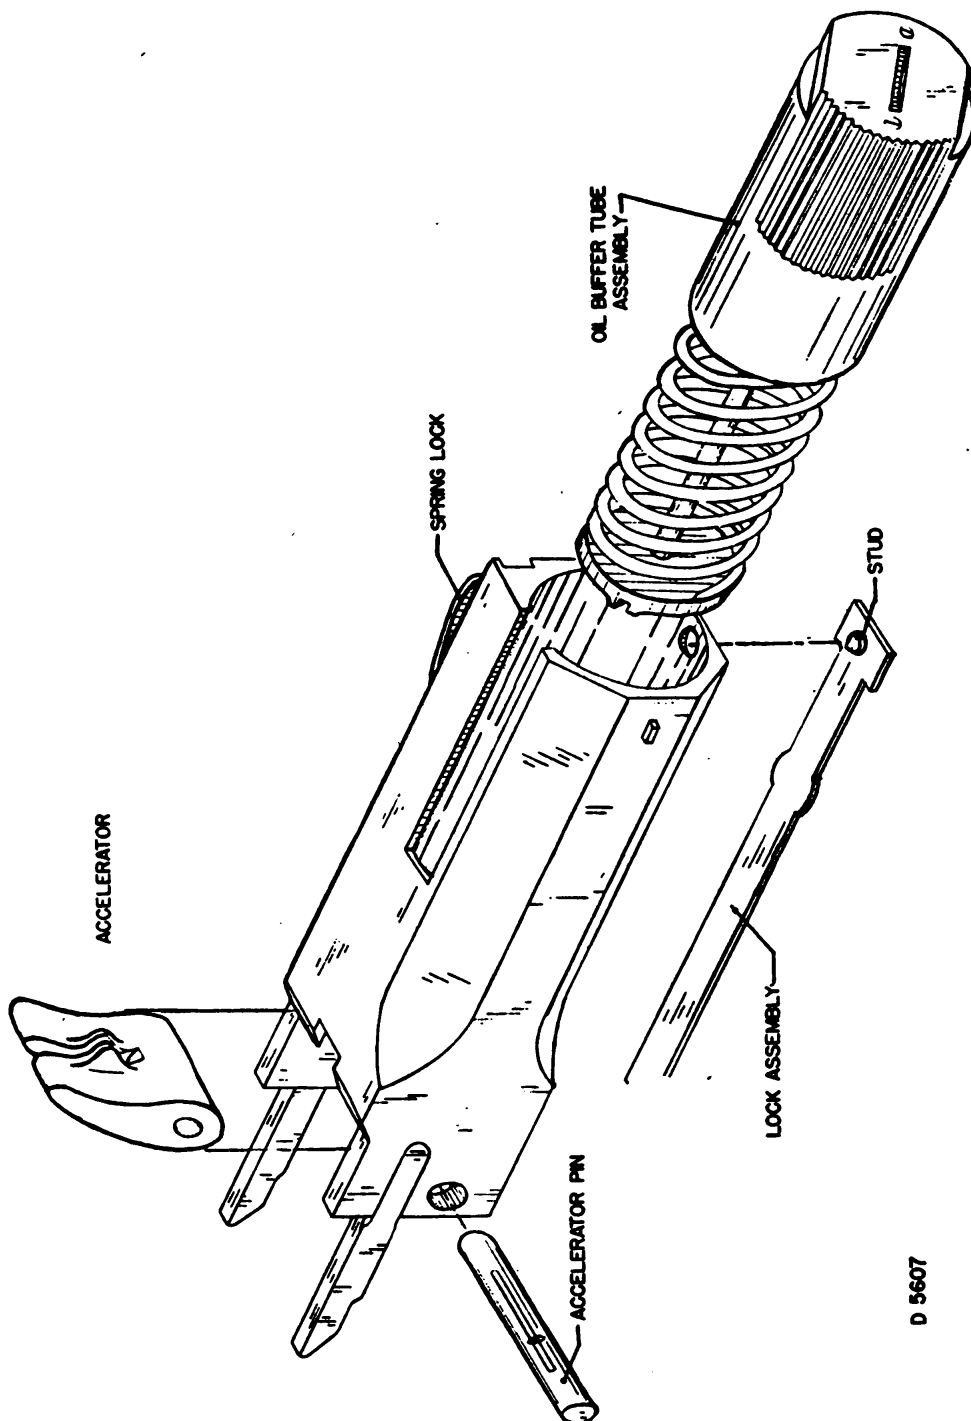
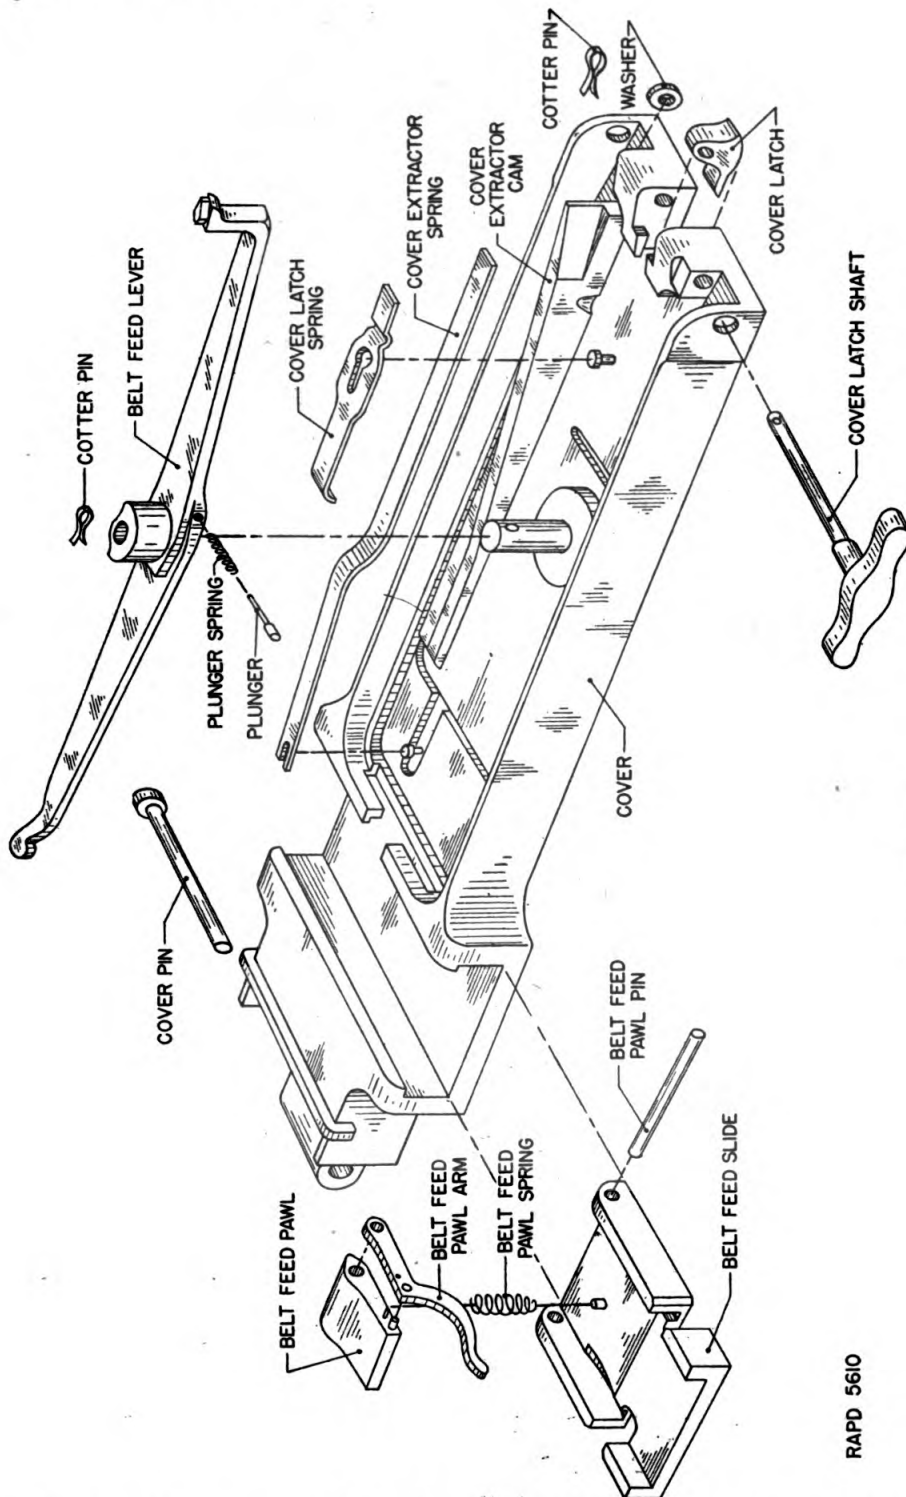

FIGURE 79.—Oil buffer group parts.
FIGURE 80.—Cover group parts.
(8) The driving spring and driving spring rod collar can be removed from the driving spring rod assembly by driving out the driving spring rod collar stop pin from the driving spring rod. This should not be done unless it is necessary to replace the driving spring.
*b. Oil buffer group (fig. 79).—*(1) Remove oil buffer, barrel extension, and barrel assembly from gun. Detach oil buffer from barrel extension by pressing accelerator forward.
(2) Remove oil buffer body spring lock by pulling it to the rear.
(3) Hold oil buffer body, bottom up, in the left hand with the index finger between depressors and prongs of accelerator. With the point of a cartridge press the stud on the end of the oil buffer tube lock spring to disengage it from its hole in the oil buffer tube body. At the same time raise accelerator upward and rotate to the rear. Remove oil buffer tube lock spring.
(4) Drive out accelerator pin and remove accelerator.
(5) The oil buffer tube assembly should not be disassembled unless absolutely necessary to replace the oil buffer spring. To disassemble, depress oil buffer spring guide sufficiently to clear oil buffer piston rod pin; turn oil buffer spring guide until oil buffer piston rod pin will pass through slots in the guide. Remove guide and spring.
*c. Barrel group.*—(1) Remove barrel by unscrewing from barrel extension.
(2) Remove barrel locking spring by sliding it forward out of its seat in barrel extension.
(3) Push out breech lock pin and remove breech lock.
(4) The barrel sleeve is permanently assembled to the barrel and should not be removed.
*d. Cover group (fig. 80).—*(1) Remove cover pin cotter pin. Drive out cover pin and lift cover free from trunnion block.
(2) Remove belt feed lever pivot stud cotter pin and pry belt feed lever off its stud, taking care while doing so that the belt feed lever plunger and spring do not fly out. In removing the belt feed lever see that toe of lever is in line with slot in cover, otherwise it will not pass out.
(3) Remove belt feed lever plunger and belt feed lever plunger spring from belt feed lever.
- (4) Remove belt feed slide complete from its guides in cover.
- (5) Push out belt feed pawl pin which will enable the belt feed pawl, belt feed pawl spring, and belt feed pawl arm to be separated.